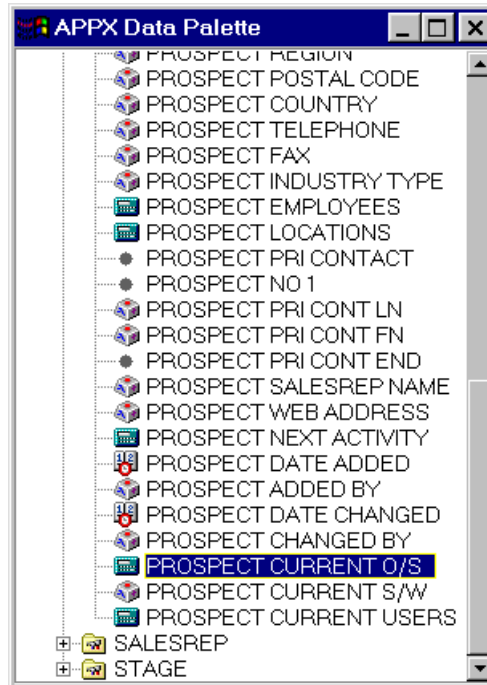

Figure E3.15 – APPX Data Palette - Fields
- Use the **Scroll bar** to move to the end of the PROSPECT field listing. (Figure E3.15)